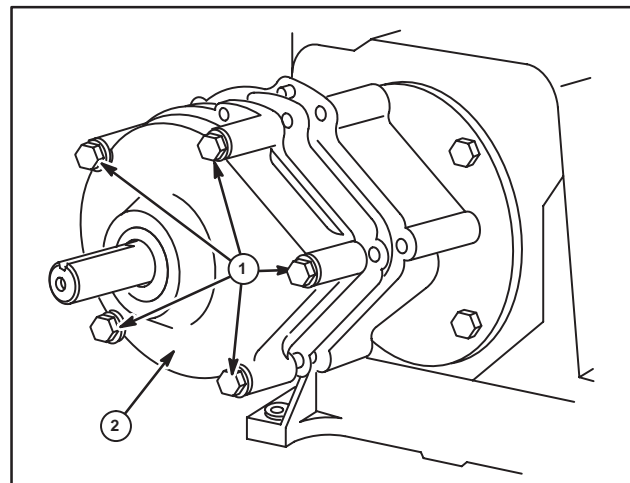

Fig. 40
- Loosen all the cover cap screws (1) one to two turns.
- Break cover (2) loose from case. Drain oil.
- After gear case is drained, remove cap screws and cover, Fig. 40.